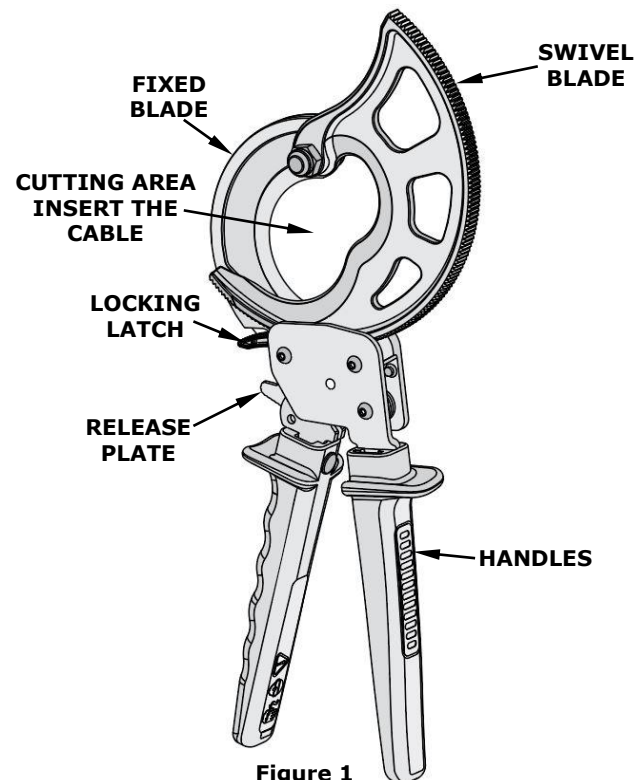

Figure 1
1. Open the cable cutter by loosening the locking latch at the base of the movable handle of the tool. See Figure 1.
1. Close the movable handle until the release plate can be moved in the down position. See Figure 1.